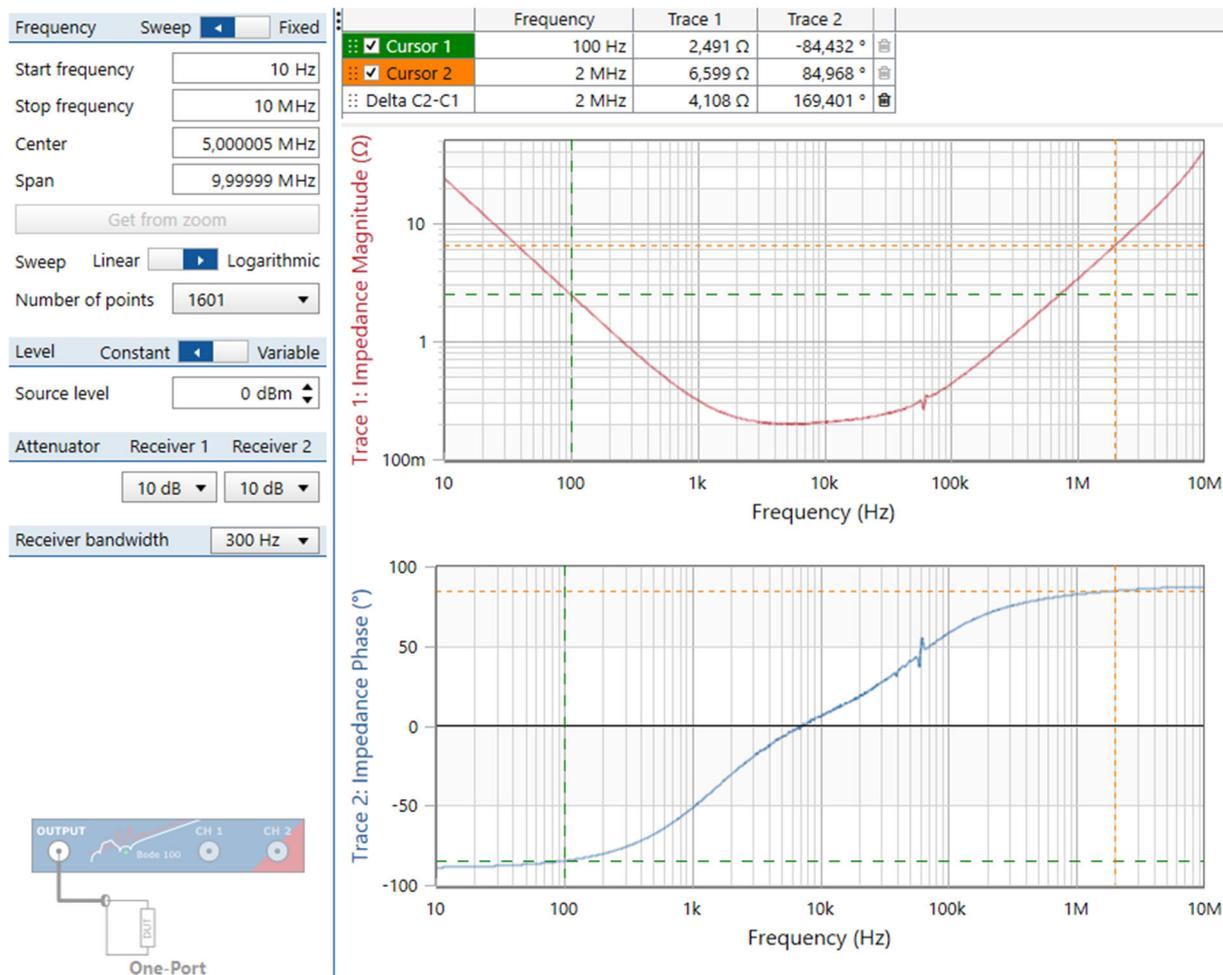

Fig. 3.1.2: Bode100 One-Port Impedance measurement of isolated 680µF (nominal) capacitor.
- In the Matlab listing below, replace values of Z_{C_abs} with measured impedance of Fig. 3.1.2 in the frequencies given above as vector f_C .